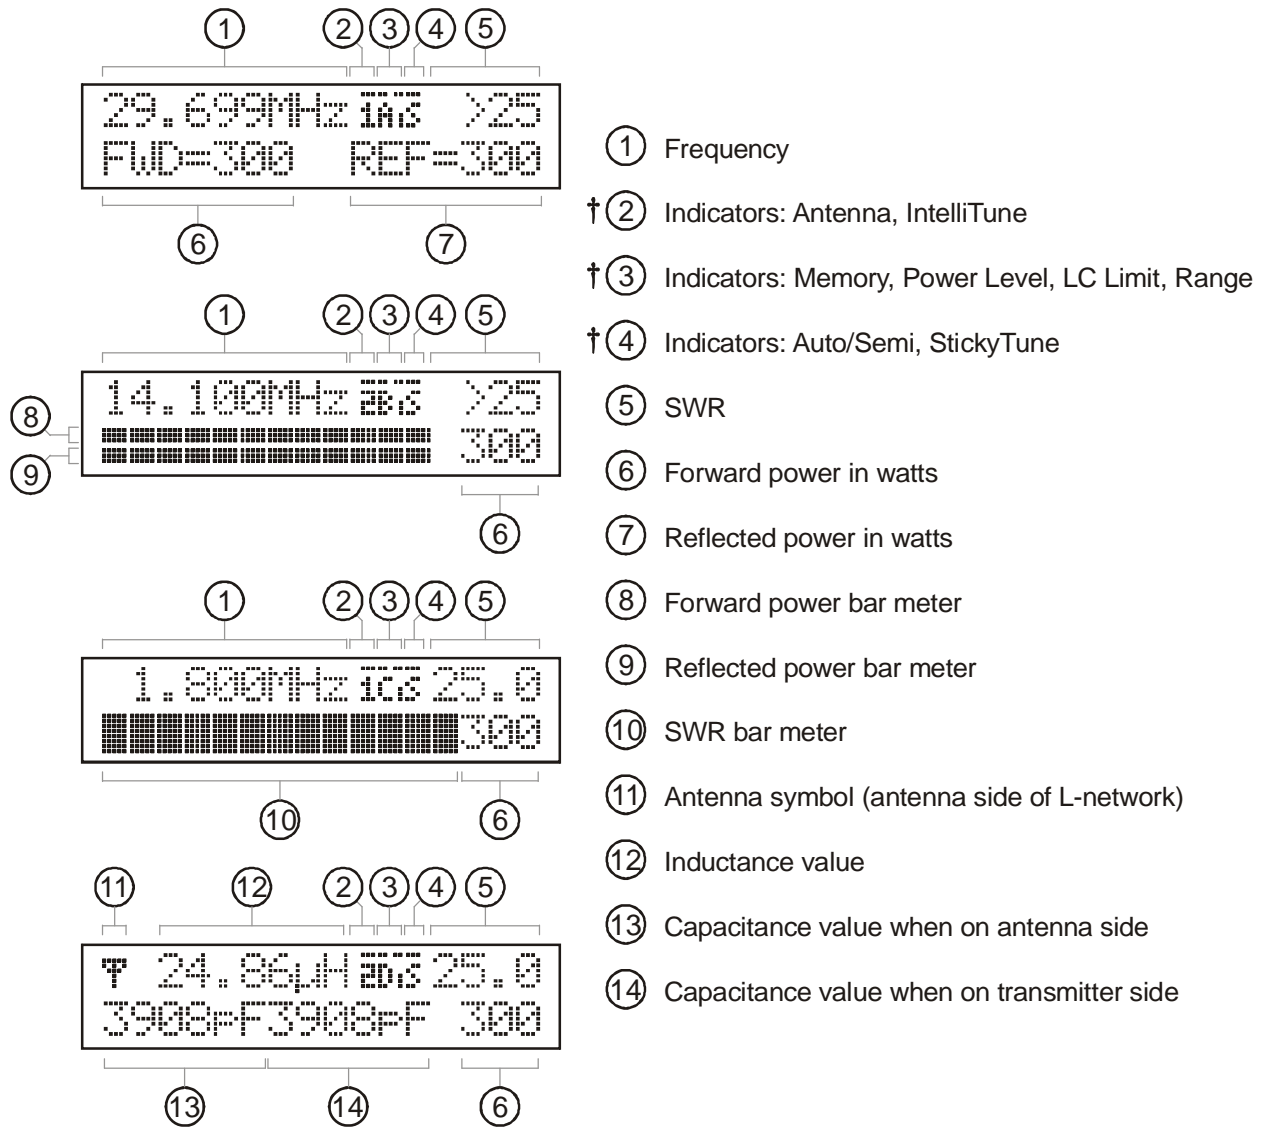
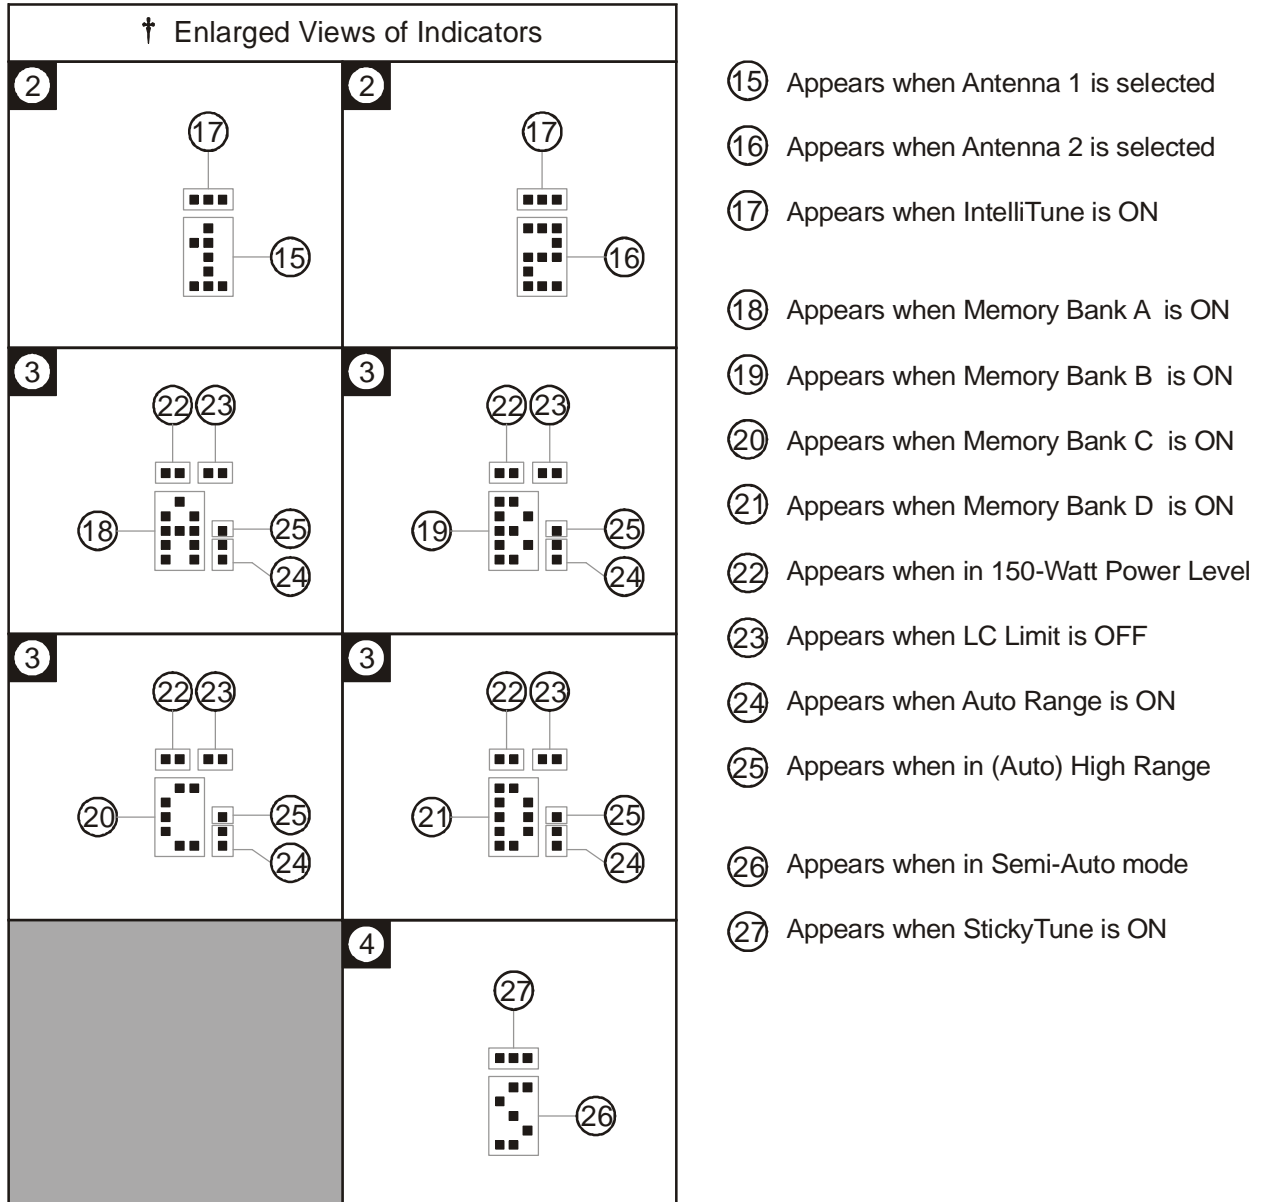

Figure 13. Main Mode Menu Display.
Figure 14. Tuner Indicators.
The meter can be set to low, high, or auto range. Auto range automatically sets the meter scales according to the input RF power to the tuner. Forward power greater than 30 watts or reflected power greater than six watts automatically sets the meter to the high power range. Forward power less than 25 watts and reflected power less than four watts automatically set the meter to the low power range. To cycle the meter range among low, high, and auto range, press the [TUNE] and [L-DN] buttons simultaneously. The forward needle will read “300” for high range, “30” for low range, and “100” for auto range until the buttons are released. When auto range is enabled, a two-dot vertical segment (low range) or a three-dot vertical segment (high range) appears in the lower right corner of the Range indicator on the main LCD screen. One beep indicates high range is selected; two beeps indicate low range; three beeps indicate auto range. Refer to Figures 13 and 14 for the on-screen Range indicator.
The main mode menus show various tuner settings and status. There are four main mode menus arranged in a “wrap-around” structure. When powered on, tuner operation starts with the main menu that was last used. Within each main menu, press the [MODE] button briefly to view the next main menu. Press and hold the [MODE] button for two seconds to enter the setup mode (see below). Various tuner indicators are shown on all four main menus: Antenna 1/2, IntelliTune™, Memory, Power Level, LC Limit, Meter Range, Auto/Semi, and StickyTune™. Refer to Figures 13 and 14 for details on the displayed information.
The power meter can be set to auto range. Auto range automatically sets the meter scale according to the input RF power to the tuner. Forward power greater than 30 watts or reflected power greater than six watts automatically sets the meter to the high power range. Forward power less than 25 watts and reflected power less than four watts automatically set the meter to the low power range. When auto range is enabled, a two-dot vertical segment appears on the on-screen tuner indicator. Refer to Figures 13 and 14 for the on-screen Range indicator.
Various tuner indicators are shown on the main menus to indicate tuner status. Refer to Figure 13 for locations of these indicators. The number enclosed within () is the item number of Figure 14.
Allows you to select the meter scale range. In the 30 watts (low) range, forward full scale is 30 watts and the reflected full scale is 6 watts (divide the meter reading by 10). In the 300 watts (high) range, the forward full scale is 300 watts and the reflected full scale is 60 watts. Auto range automatically sets the meter scales according to the input RF power to the tuner. Forward power greater than 30 watts or reflected power greater than six watts automatically sets the meter to the high power range. Forward power less than 25 watts and reflected power less than four watts automatically set the meter to the low power range. Refer to Figures 13 and 14 for the on-screen Meter Range indicators. Default is the 300-watt range.
The memory resolution for non-amateur frequency bands between 160 and 10 meters is approximately 0.2 percent of the lower frequency of that band. There are over 2500 memory locations for each memory bank, and each antenna has four memory banks (A-D). Tuner settings are stored in memory separately for Antenna 1 and Antenna 2 (settings for balanced line or single-wire antenna are stored as Antenna 1). This provides memory for up to eight different antennas. Refer to Figures 13 and 14 for the on-screen Memory indicator. Defaults are memory banks 1A and 2A ON.
Turns the *IntelliTune*TM tuning algorithm on and off. When the tuner cannot find an appropriate setting in its memory, it begins its calculation function. It measures the complex impedance of the antenna (load) at the transmitting frequency, then it calculates the L/C components needed for a match. Then it fine-tunes the component values. If for any reason the tuner cannot calculate the load impedance, it proceeds to yet another method of calculation. If for any reason, this function can be turned off. Refer to Figures 13 and 14 for the on-screen *IntelliTune*TM indicator. Default is ON.
The upper limits of inductance (L) and capacitance (C) are factory-limited according to frequency and maximum power rating; i.e., higher frequencies need less inductance and less capacitance when the L-network is properly tuned. Pressing [C-UP] and/or [L-UP] allows capacitance and inductance to be increased only to these limits. When a selected capacitance or inductance is higher than its allowed limit, and the frequency is changed, that selection is automatically reduced to the value of its limit. These limits are used to prevent matching of extreme load impedance outside the tuner’s specification, which may result in excess voltage and/or current across the tuner’s components. This setting is not stored in non-volatile memory and reverts back to the default when the tuner power is turned off. Refer to Figures 13 and 14 for the on-screen LC Limit indicator. Default is ON.